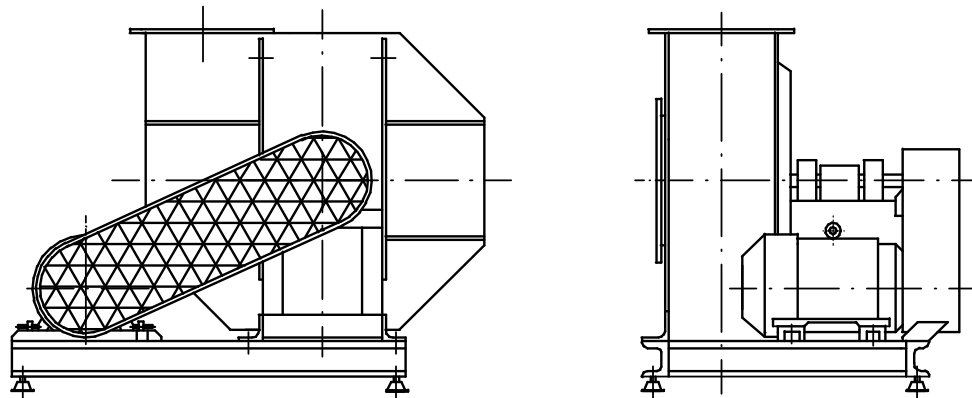

Figure 7. Fan unit.
- Flexible: the fan is indirectly mounted to the ground through vibration insulators assembled to the fan's base or frame, reducing the vibrations transmitted to the ground (Fig. 7).